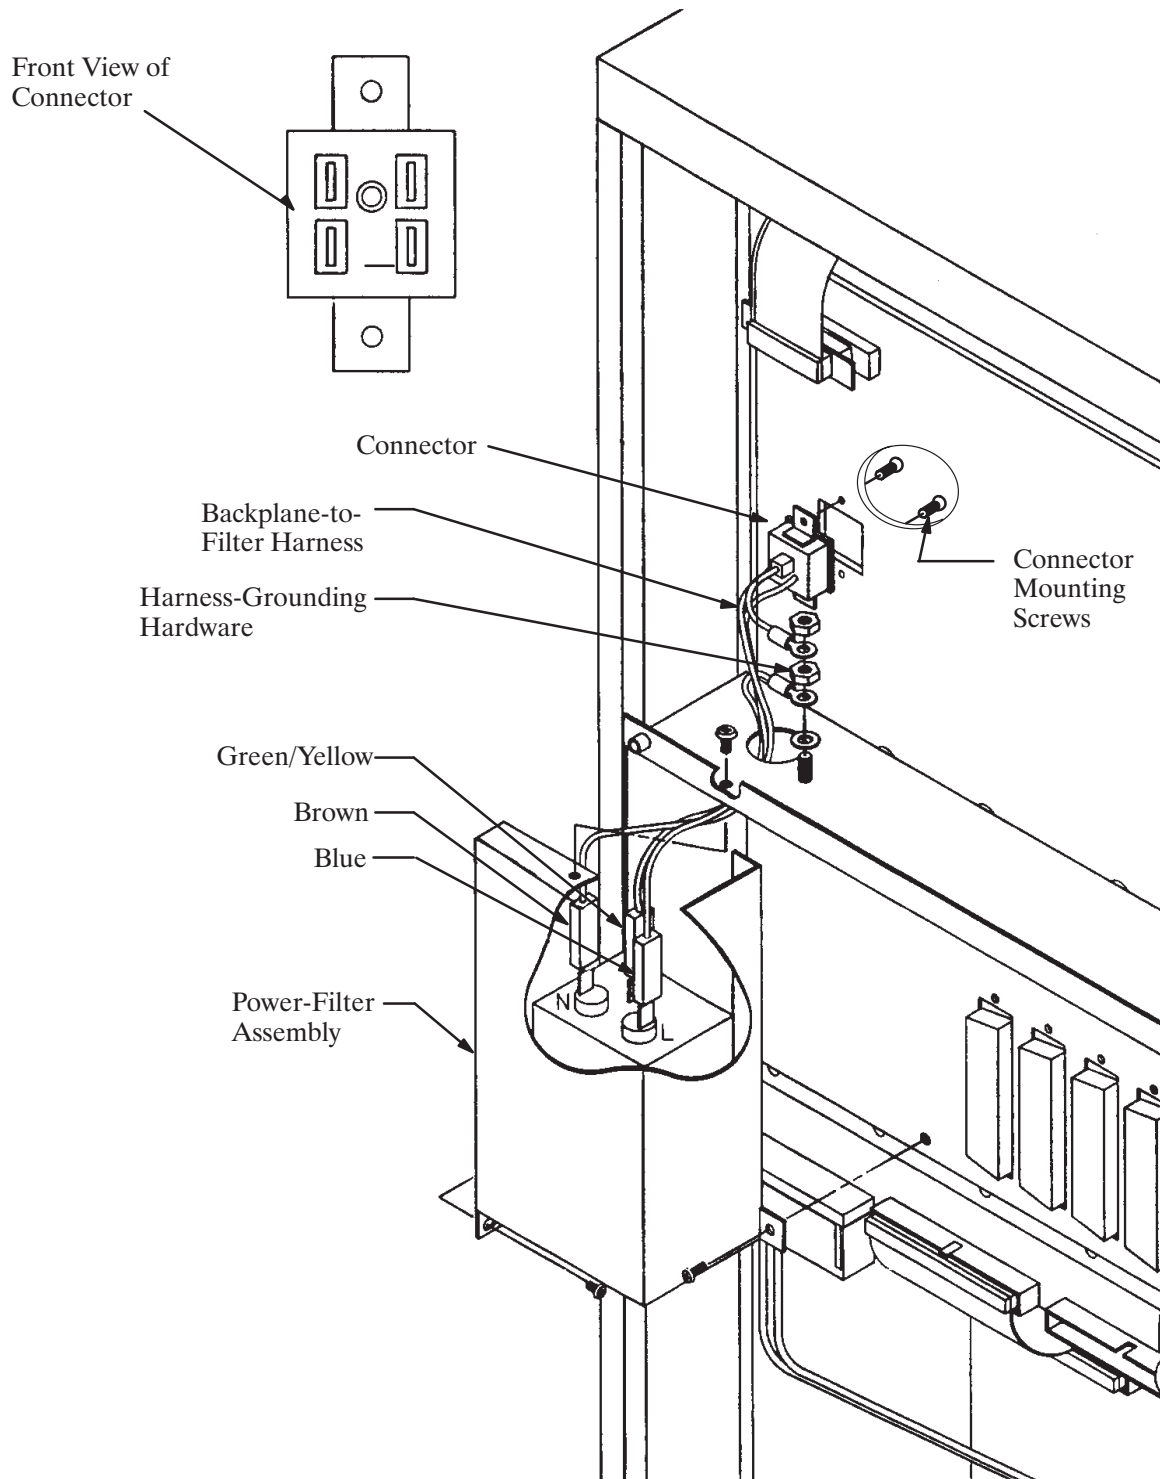
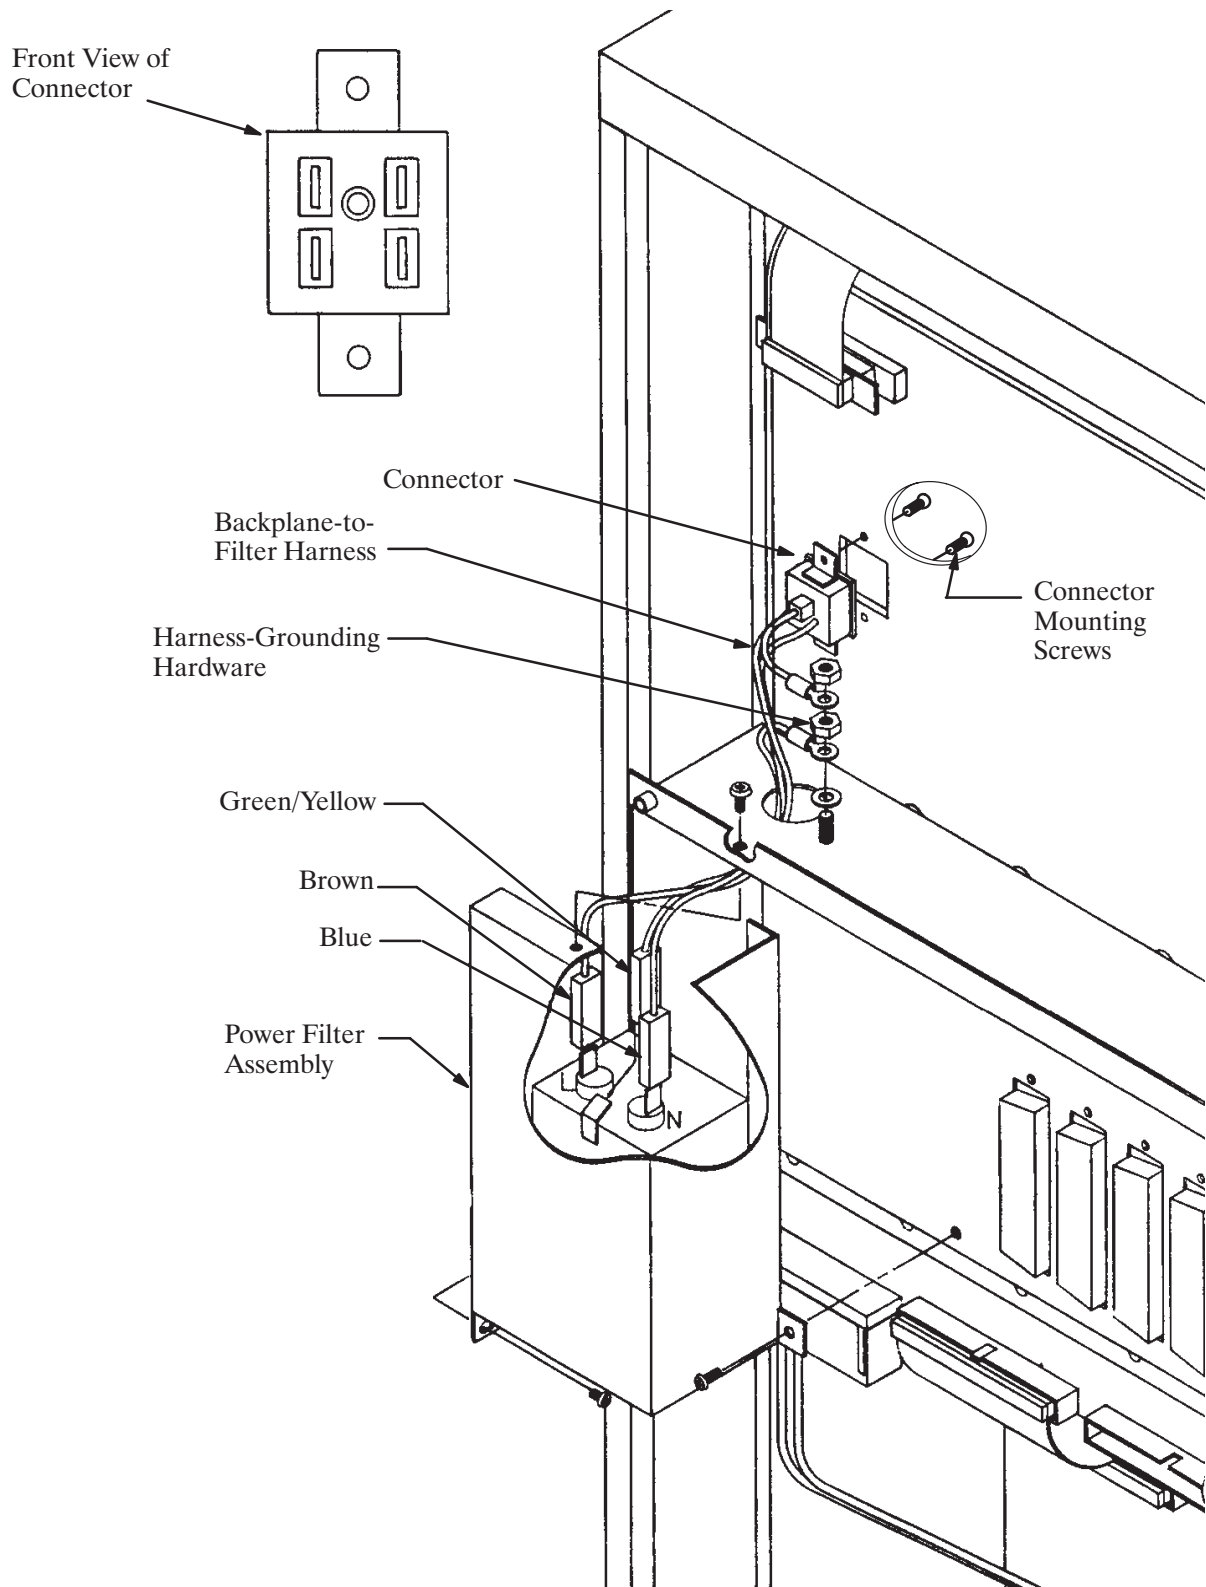
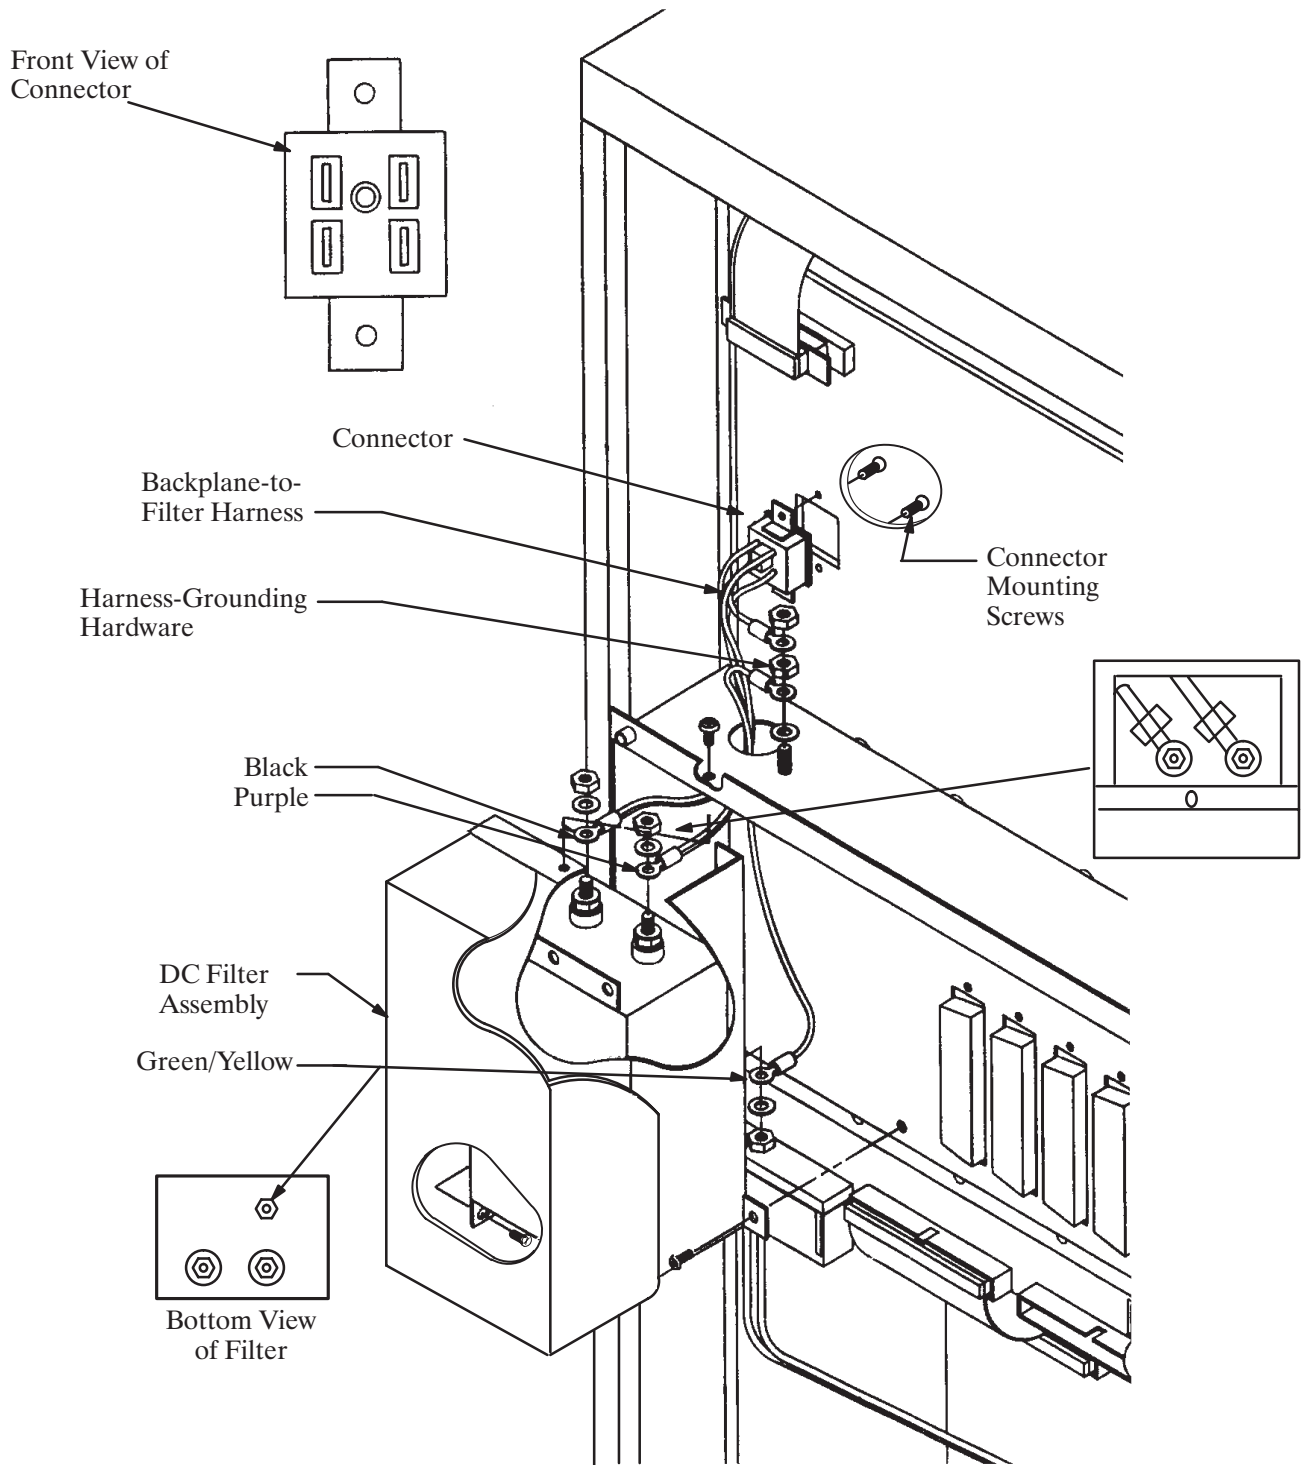

Figure 9-24 Power-Filter Assembly for 120-Vac and 240-Vac Domestic Octel Overture 300
Figure 9-25 Power-Filter Assembly for 240-Vac International Octel Overture 300
Figure 9-26 Power-Filter Assembly for 48-Vdc Octel Overture 300
To remove the Motherboard Assembly, refer to Figure 9-24, Figure 9-25, and Figure 9-26, and use the following procedures:
1. Install the filter power harness from the old motherboard on the new motherboard. Refer to Figure 9-24 for correct installation.
If the cabinet is d.c. powered, reconnect the wires from the d.c. power source to the power filter assembly. Refer to Figure 9-26.
1. Connect the wires from the motherboard assembly to the power-filter, as shown in Figure 9-25 and Figure 9-26, according to the voltage requirement for the message server.